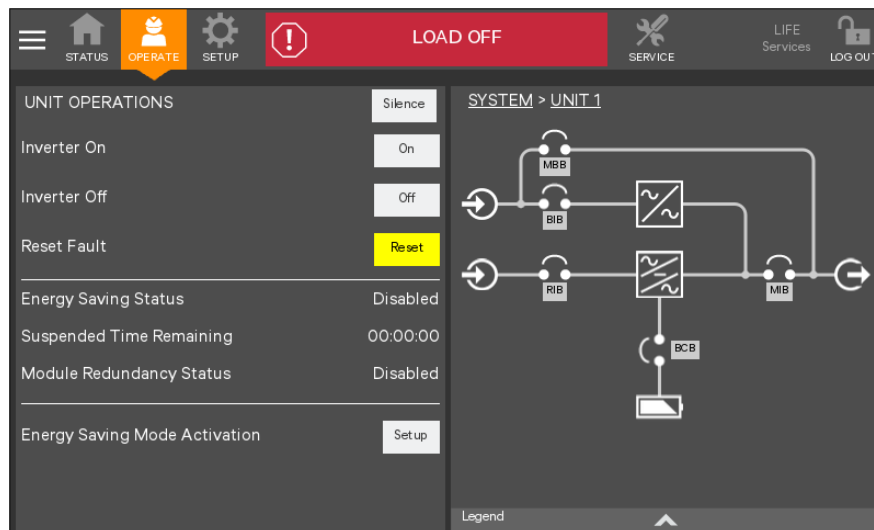

Figure 5-3 Clicking On key
4. When the rectifier start process is finished, the system will run in Bypass mode (Power flow shown in Figure 5-3). Click the **On** key (Refer to Section 4.3.3).